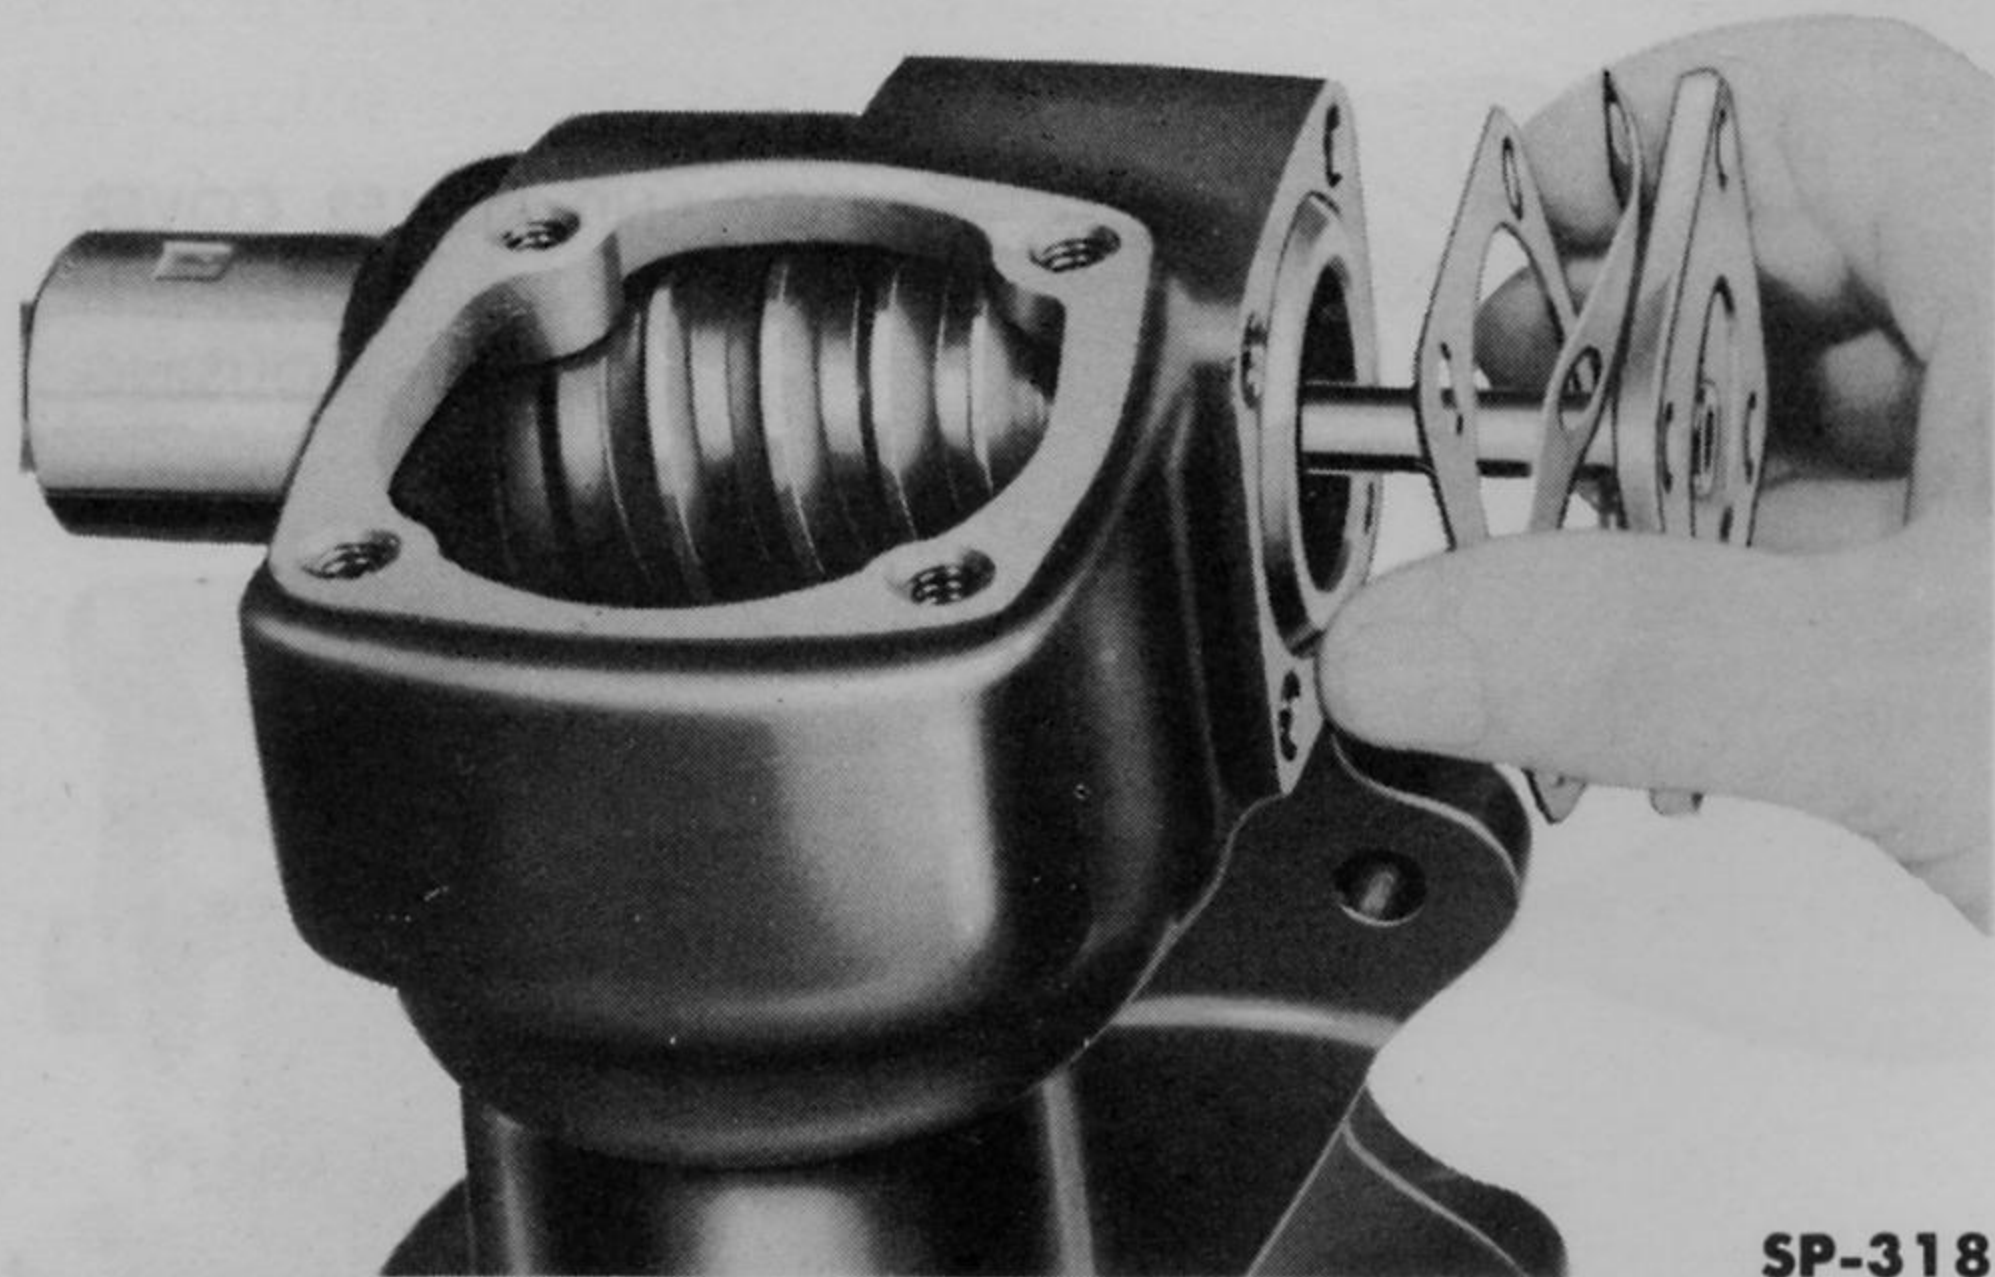

Fig. 293—Removing Steering Gear Housing Cover
3. Remove the cover attaching bolts, the housing cover, and the shims used to establish worm bearing adjustment (Fig. 293). Check the total thickness of the shims with a micrometer so it will be possible to use the same thickness when assembling the steering gear.